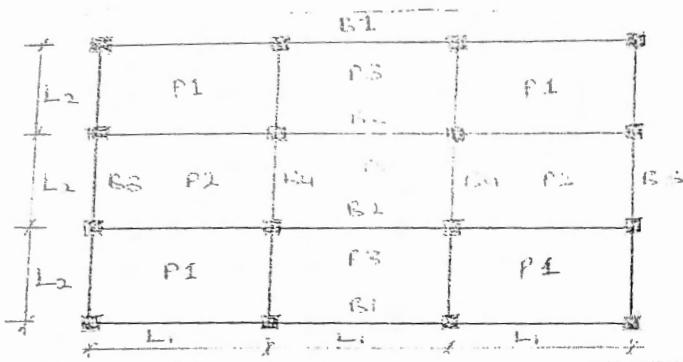

Figure Q2, 3 & 4
2. For the structural plan in figure Q2, 3, & 4 estimate the ultimate load on beam B2 and column C4 at the ground floor. Given: slab thickness = 200mm, imposed load = 5 kN/m^2 , partition load = 2.0 kN/mm^2 , finishes = 1.5 kN/mm^2 , roof load = 2.0 kN/m^2 , $L_1 = 6\text{ m}$, $L_2 = 4\text{ m}$, number of storey = 5. Take partition load and finishing load as part of the dead load of the structure. **(25 marks).**
3. Design beam B2 in Fig. Q2, 3& 4 for tension and compression reinforcements and check for deflection. Given: Usage of building – office for general use; slab thickness – 150 mm; Finishes – 1.0 kN/m^2 ; partition load – 2.0 kN/m^2 ; beam dimension – 250 mm x 500mm; $f_{cu} = 25\text{ N/mm}^2$; $f_y = 460\text{ N/mm}^2$; $L_1 = 7\text{ m}$; $L_2 = 5\text{ m}$; cover – 20mm; diameter of reinforcement – 20mm. **(25 marks).**
4. Design panel P1 in Fig. Q2, 3 & 4 for tension reinforcement and check for deflection. Given: Usage of building – gymnasium; slab thickness – 150 mm; Finishes – 1.0 kN/m^2 ; partition load – 1.5 kN/m^2 ; $f_{cu} = 25\text{ N/mm}^2$; $f_y = 460\text{ N/mm}^2$; $L_1 = 6\text{ m}$; $L_2 = 4\text{ m}$; cover – 20mm; diameter of reinforcement – 12 mm. **(25marks).**